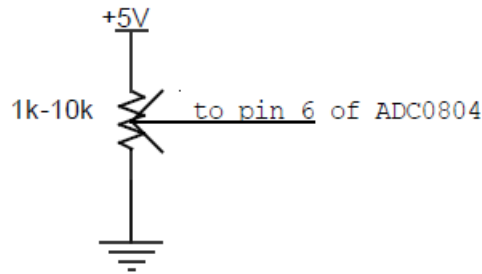

Figure 10-2 DC Input Circuit
3. Now build the DC input circuit shown below in Figure 10-2.